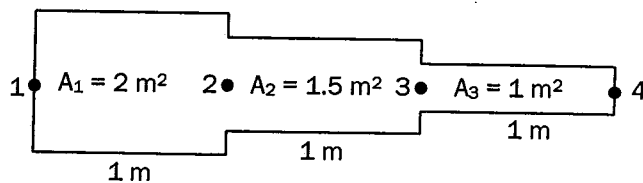

Figure Q4[a]
- Q4. [a] For the smooth pipe of variable cross section shown in Figure Q4[a], determine the nodal fluid heads or potential at the junctions, the velocities in each section of pipe and the volumetric flow rate. The nodal fluid heads or potential at the left end is  $p_1 = 25 \text{ m}^2/\text{s}$  and that at the right end is  $p_4 = 1 \text{ m}^2/\text{s}$ .